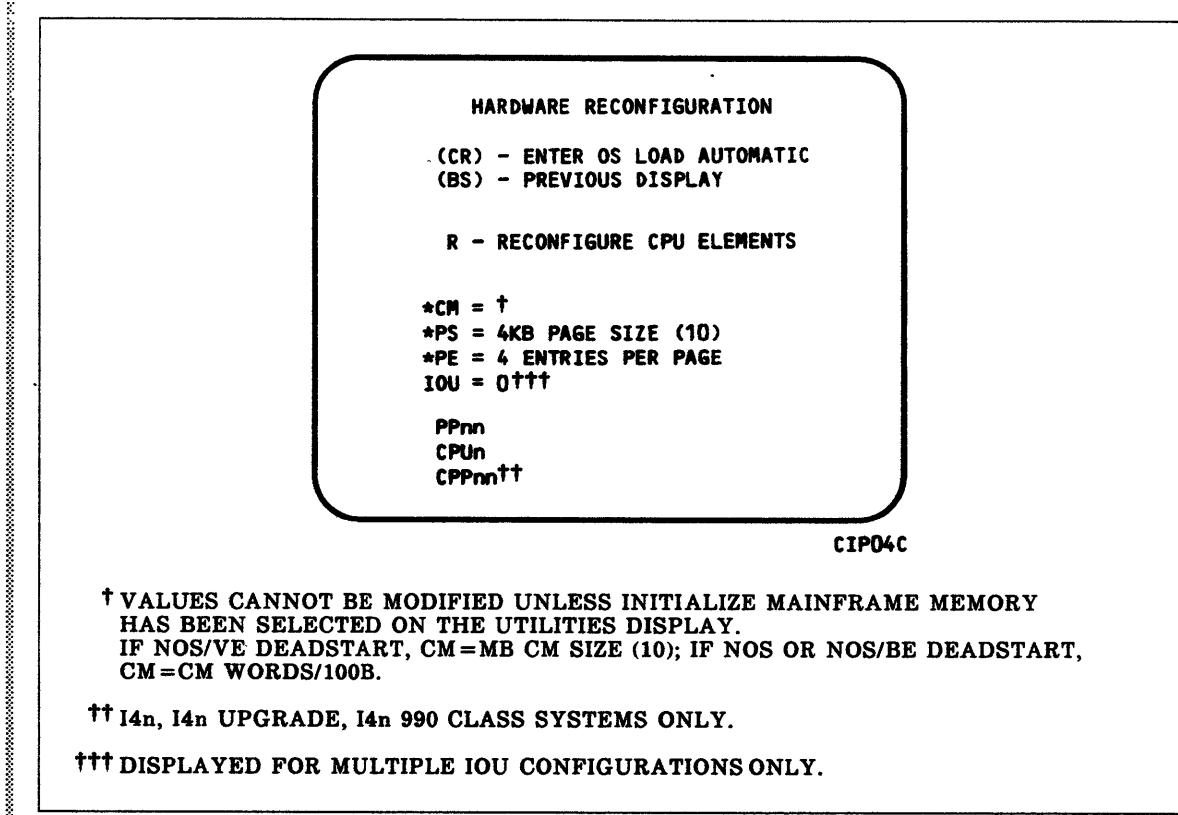

Figure 2-6. Hardware Reconfiguration
- H HARDWARE RECONFIGURATION. Select this option to alter the mainframe hardware configuration. When selected, figure 2-6 appears.